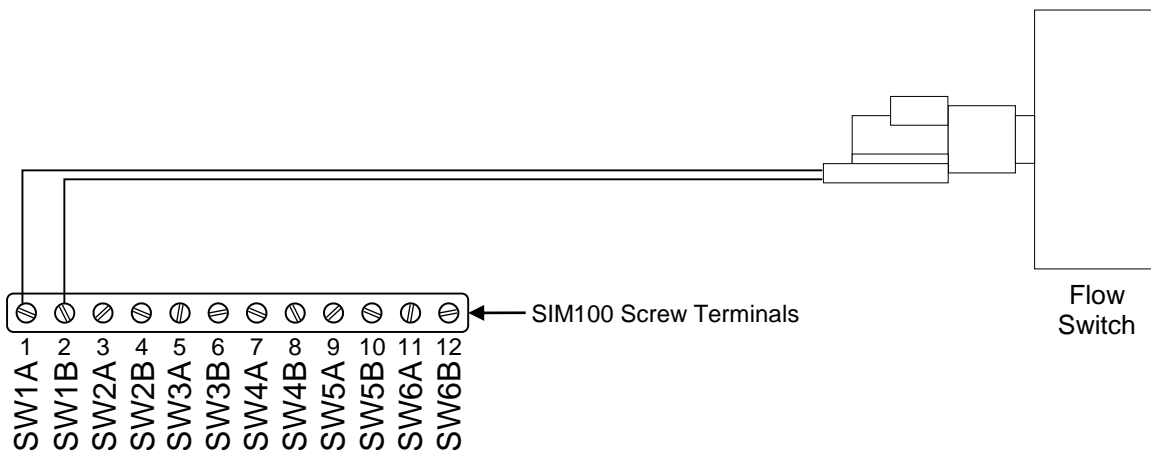

Figure 1 - Wiring Diagram
Please follow these instructions to connect the 10271 to the NMEA 2000 network via a Maretron SIM100 Switch Indicator Module. The wiring diagram appears in Figure 1. The diagram shows a connection to channel #1, but connections to other channels are similar. Please refer to the original manufacturer's instructions packaged with the product for additional details including setting of the switch activation flow rate.
1. Install the two wires from the 10271 to a free switch channel on the SIM100. The two wires are interchangeable. The example in Figure 1 shows the flow switch connected to switch channel 1, terminals SW1A and SW1B.